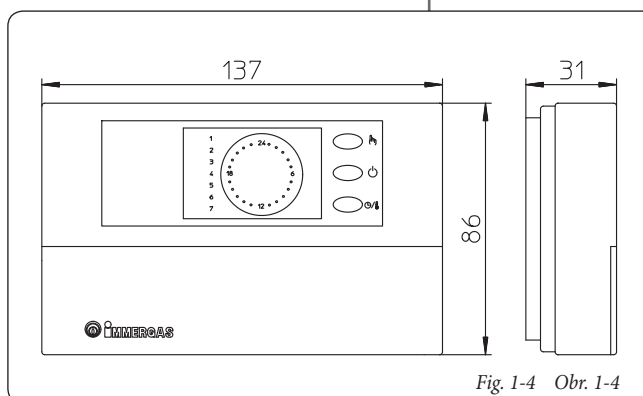

Fig. 1-4 Obr. 1-4
- On/Off digital chronothermostat (Fig. 1-4). The chronothermostat allows: